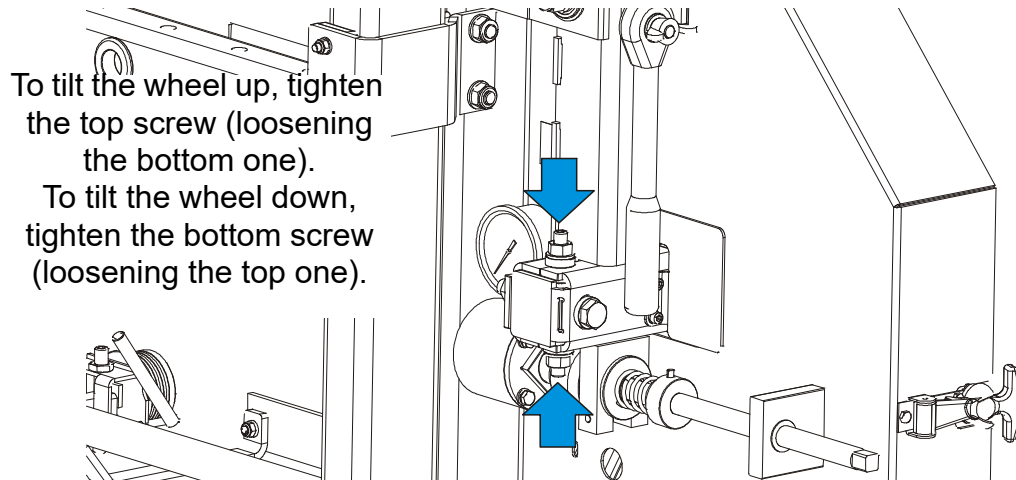

FIG. 3-5
- If the two measurements differ by more than 1/16" (1.5 mm), adjust the vertical tilt of the idle-side blade wheel. See See figure 3-5.
See figure 3-5. To tilt the idle-side blade wheel up, loosen the bottom adjustment screw 1/2 turn. Loosen the nut on the top adjustment screw and tighten the top adjustment screw. Then tighten the upper and lower nut.